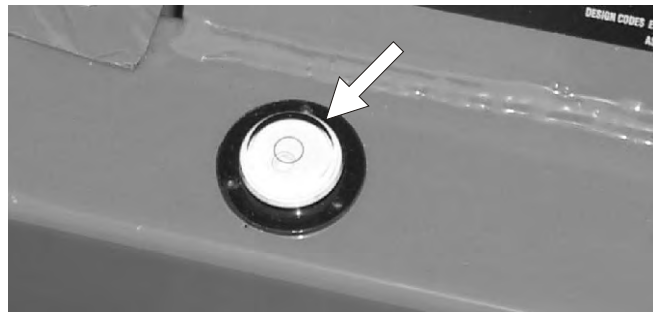

Figure 8.4
Lower the rear stabilisers and level the machine using the level bubble (see Figure 8.4) adjacent to the control levers.
1. Operate each switch ② (see Figure 8.5) to raise or lower each stabiliser one at a time. Use the level bubble (see Figure 8.4) to check the machine is level.